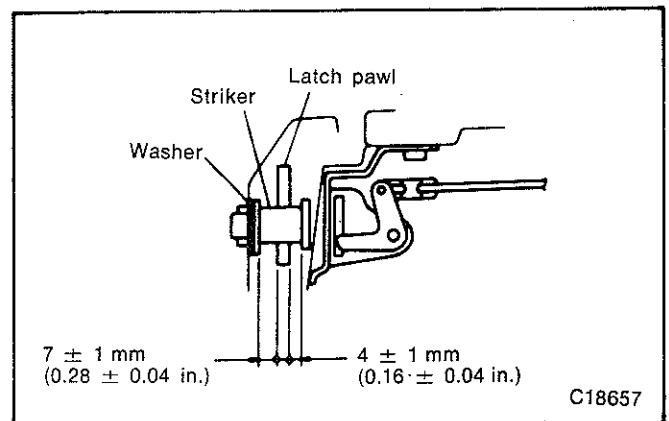

Fig. 26—Adjusting tailgate striker
(1) Adjust the latch to striker clearance with washers as shown in Fig. 26 and ensure that the R.H. side clearance is well balanced with the L.H. side clearance.